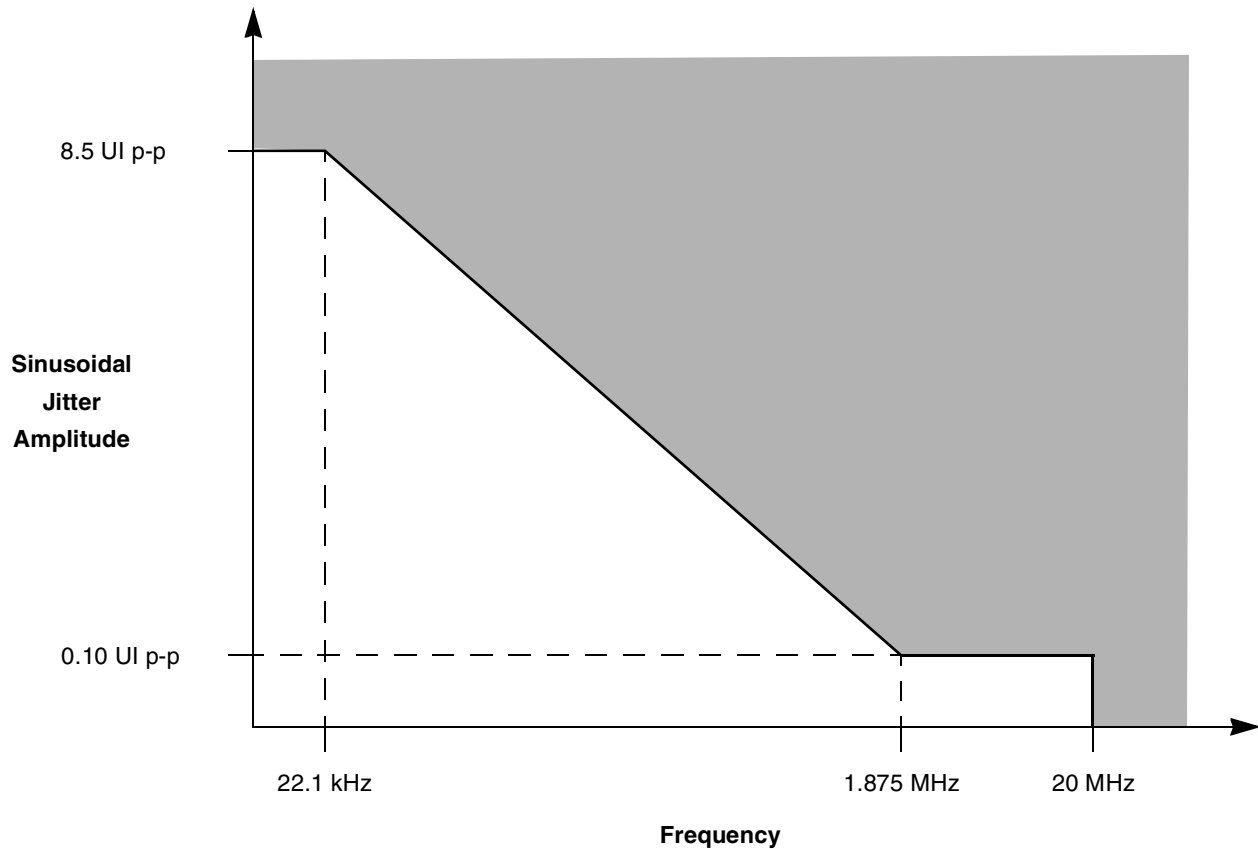

Figure 55. Single Frequency Sinusoidal Jitter Limits
- Total jitter is composed of three components, deterministic jitter, random jitter and single frequency sinusoidal jitter. The sinusoidal jitter may have any amplitude and frequency in the unshaded region of Figure 55. The sinusoidal jitter component is included to ensure margin for low frequency jitter, wander, noise, crosstalk and other variable system effects.
1. Total jitter is composed of three components, deterministic jitter, random jitter and single frequency sinusoidal jitter. The sinusoidal jitter may have any amplitude and frequency in the unshaded region of <a href="#">Figure 55</a> . The sinusoidal jitter component is included to ensure margin for low frequency jitter, wander, noise, crosstalk and other variable system effects.